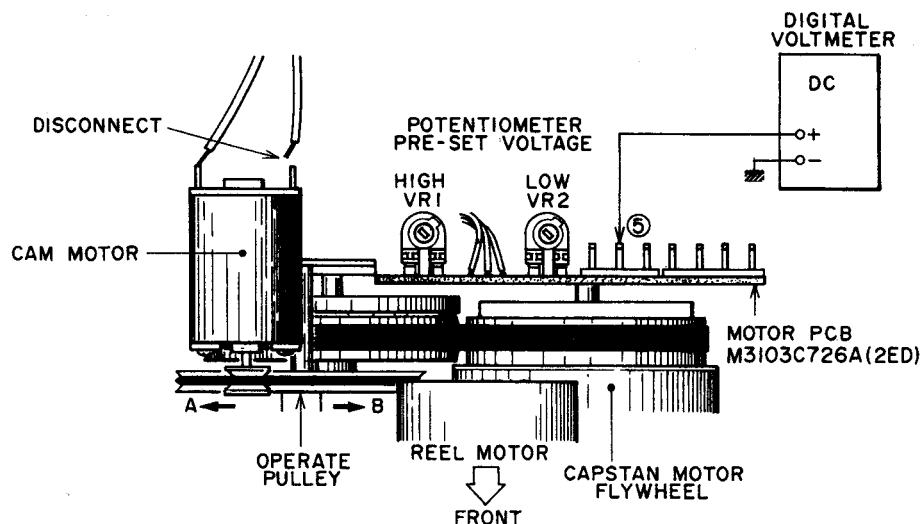

Fig. 5-1
- b. Connect the digital voltmeter as shown in Fig. 5-1.